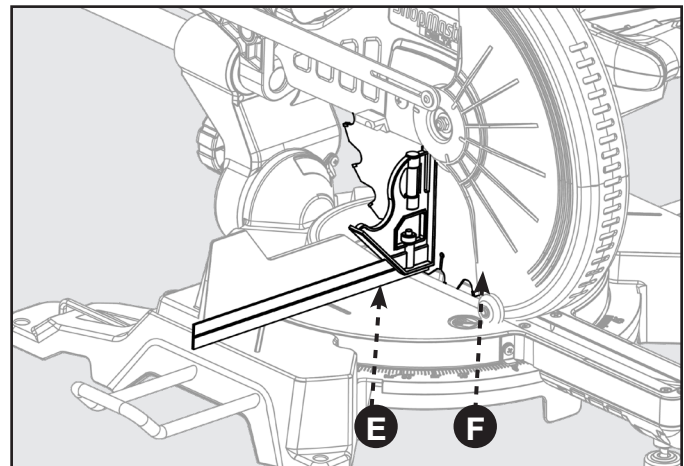

FIGURE 13
9. The edge of the square and the saw blade should be parallel as shown in Figure 13.